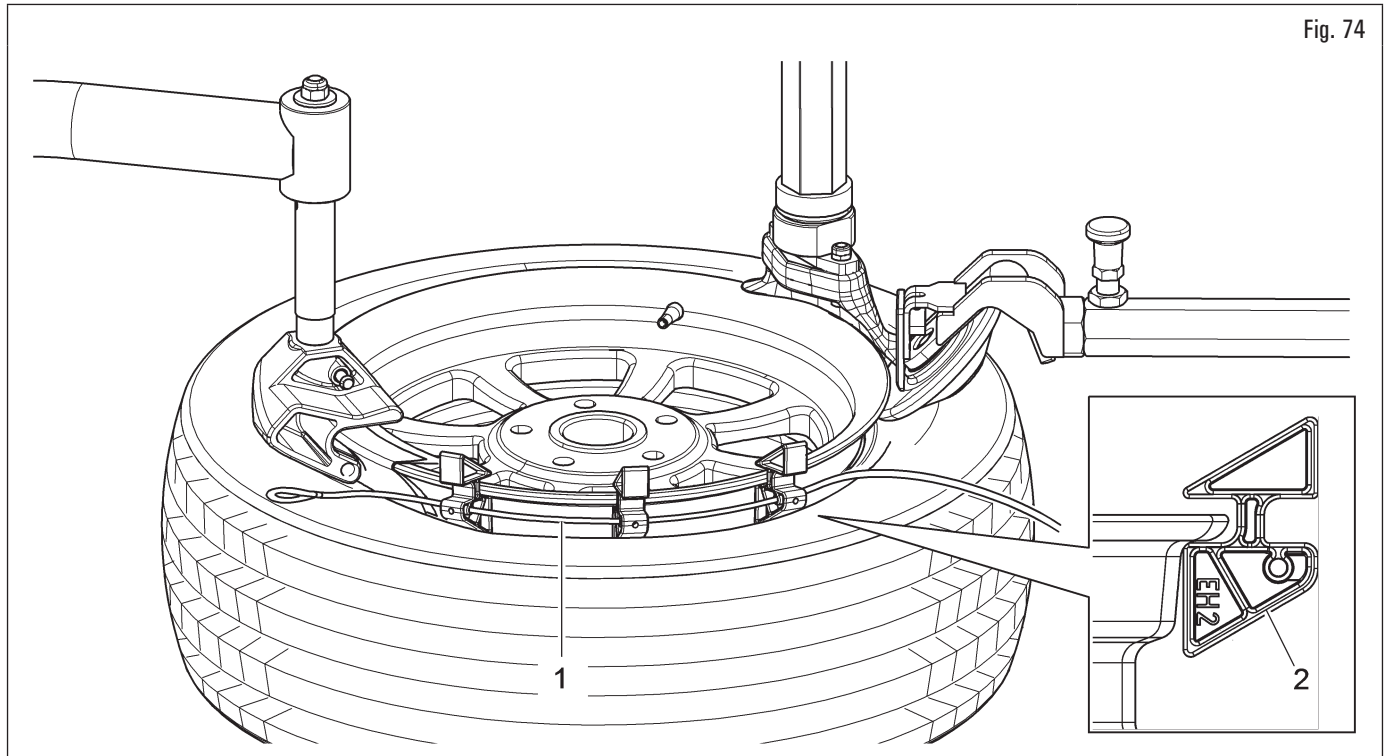

Fig. 74
12. slowly rotate the spindle clockwise and insert the 3 wedges of the bead press extension (Fig. 74 ref. 1) on the rim edge between the tilted roller and the wedge tool, at a regular distance, with the side marked "EH2" (Fig. 74 ref. 2) facing downwards;